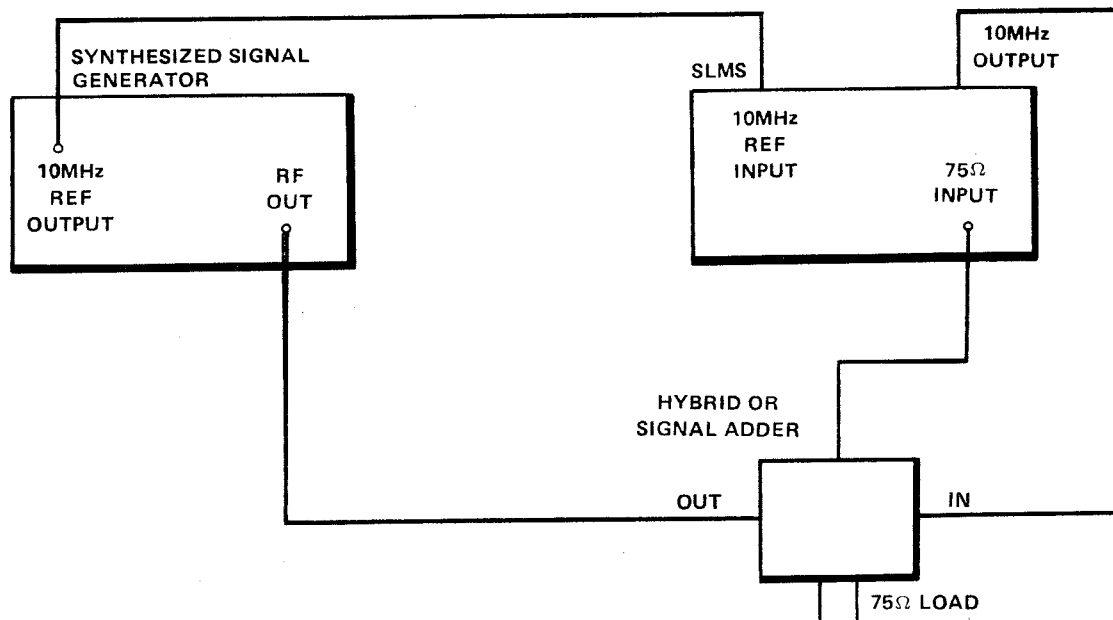

Figure 5-4 Phase Jitter Test
12. Connect the equipment as shown in figure 5-4.